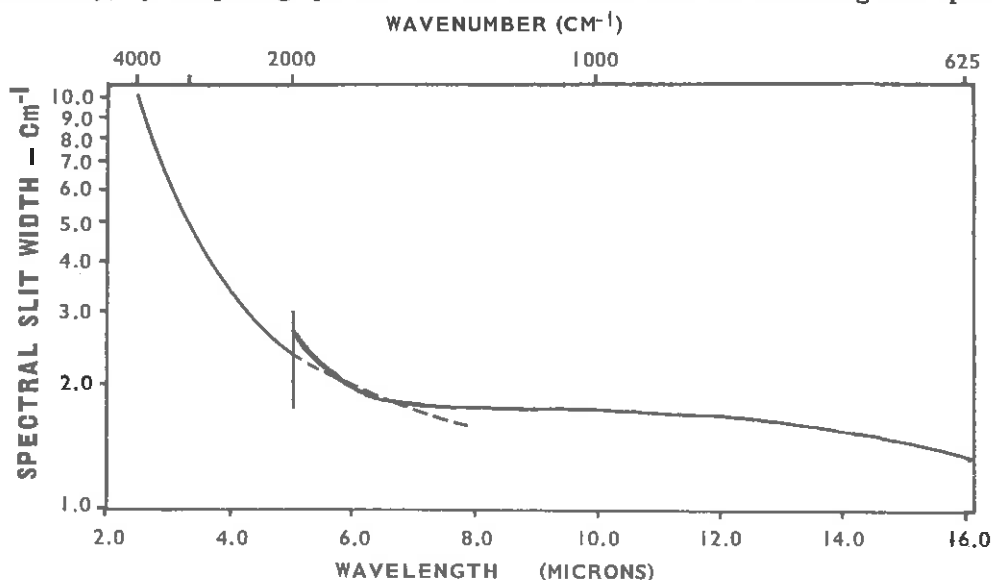

Fig. 2.10 Spectral Slit Width Curve
25. The test spectra recorded immediately after installation should be comparable with the reference spectra in Figs. 2.10 to 2.13 within the limits of the specification in the following respects:—